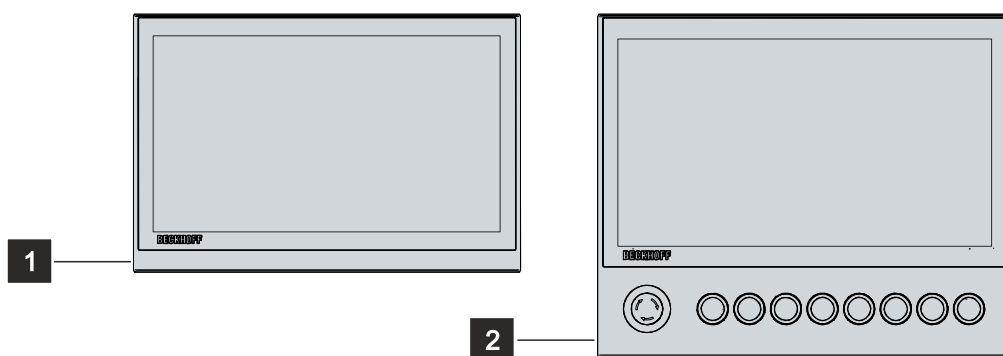

Fig. 1: CP29xx\_without and with push button extension
Explanations of the push button extension and the functions can be found in the installation and operating instructions for the C9900-G0xx. Figure 1 shows an example of a Control Panel without (1) and with (2) push button extension.